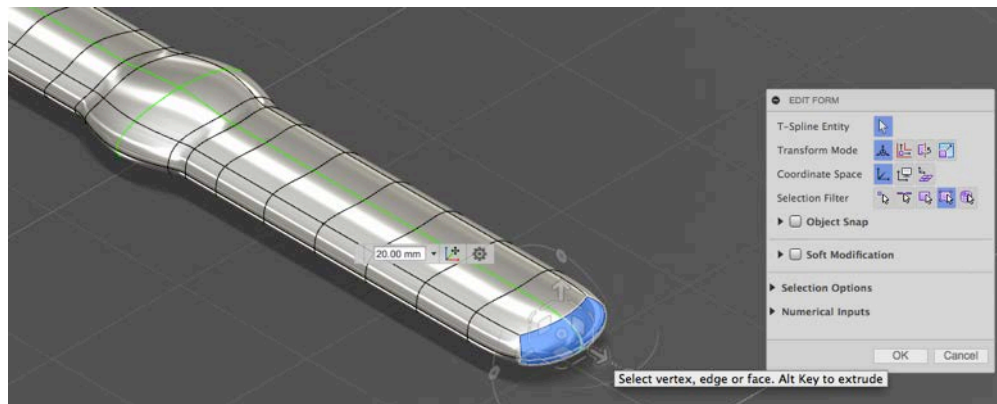

Fig. W03
- c. Repeat last step several times until the desired length has been achieved (Fig. W03).